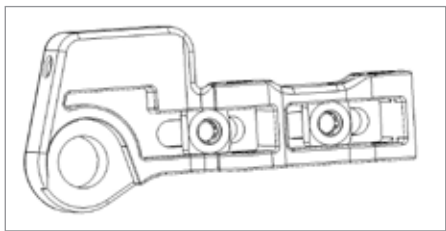

Figure 4
7. Repeat steps 3, 4, and 5 on the non-driveside dropout (Fig. 4).